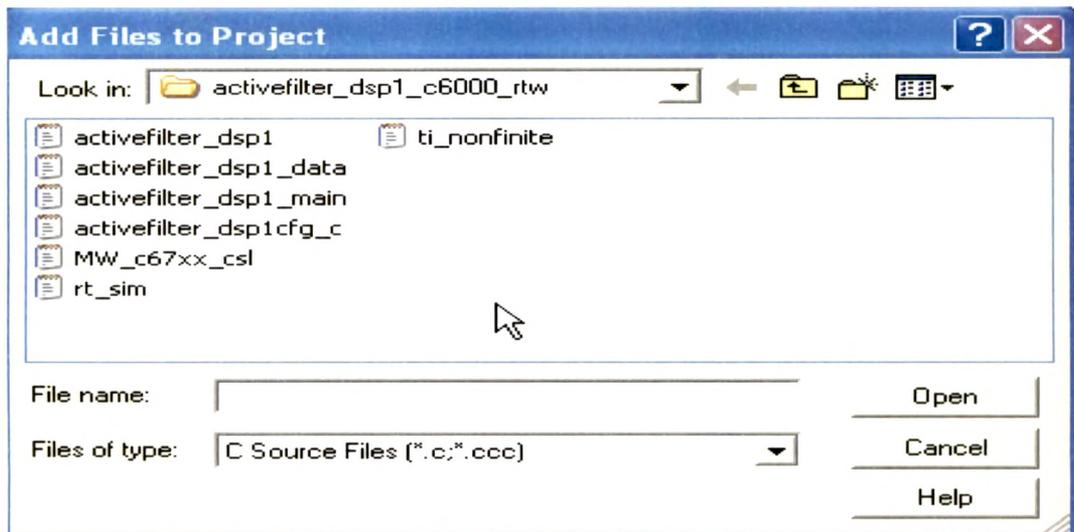

Fig 8.20 ADD FILES TO PROJECT DIALOG BOX
- Select Project → Add Files to Project, or right-click on the project's filename in the Project View window and select Add Files. The Add Files to Project dialog box displays.(Fig 8.20)